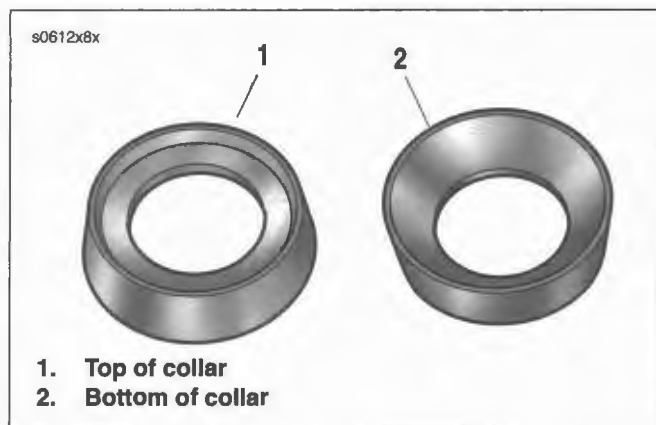

Figure 8-55. Collar
See Figure 8-55. In next step, be sure top of collar (1) is facing up.